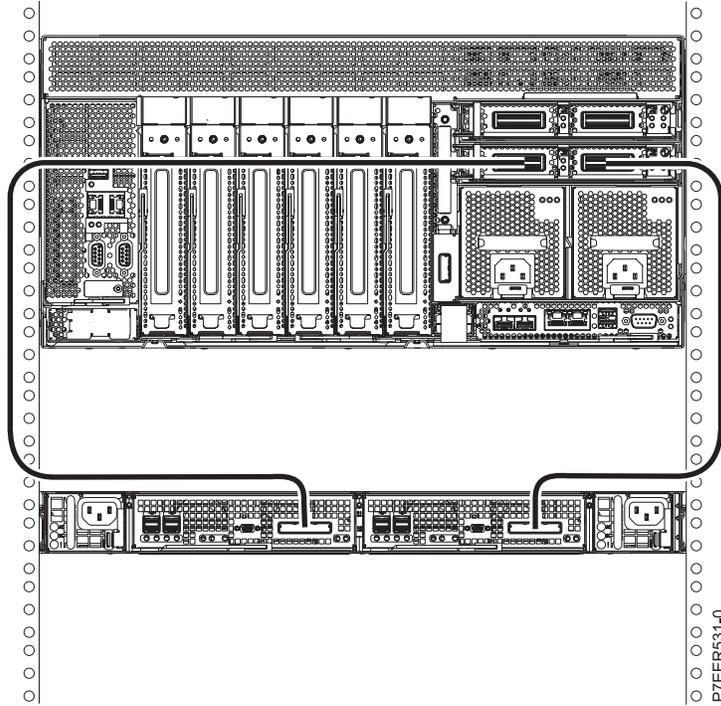

Figure 27. One ED/R1 PCIe storage enclosure connected to a single 08E/8D or 09R/MD system by using one FC 1914 PCIe2 GX++ adapter and two PCIe cables
Figure 27 on page 24 shows one ED/R1 PCIe storage enclosure connected to a single 08E/8D or 09R/MD system by using one feature code (FC) 1914 PCIe2 GX++ adapter and two PCIe cables.